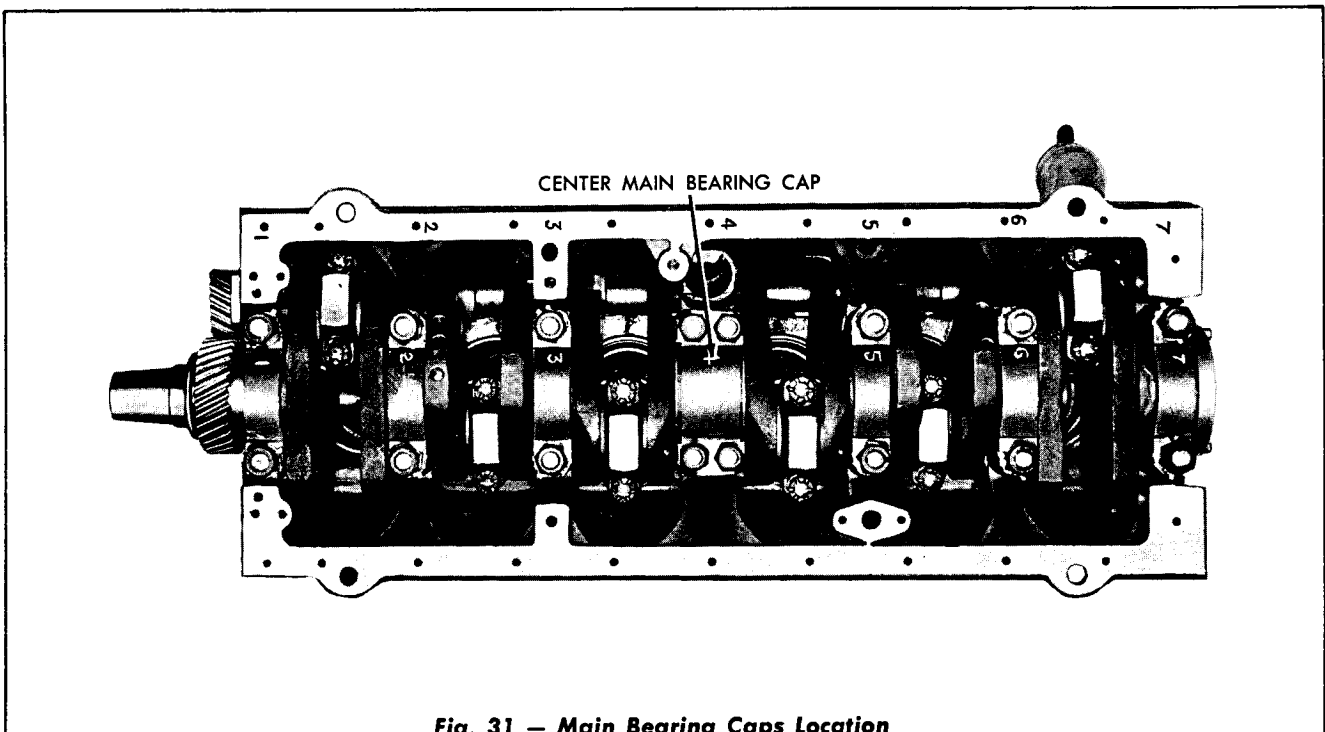

Fig. 31 — Main Bearing Caps Location
- c. Place the lower halves of the main bearing shells in the main bearing caps, inserting the tangs of the shells into the slots in the caps. The bearing caps are numbered 1, 2, 3, etc., indicating their respective positions. Install the caps with the numbers facing the camshaft side of the engine and corresponding to the number stamped on the lower edge of the cylinder block, as shown in Figure 31, and install the main bearing cap lockwashers and stud nuts. Use a torque indicating wrench and tighten the nuts to a torque of 210 to 230 lbs. ft. on the $\frac{3}{4}$ " nuts used on the front, intermediate, and rear main bearings; tighten the $\frac{5}{8}$ " nuts used on the center main bearing to a torque of 160 to 170 lbs. ft. Lock